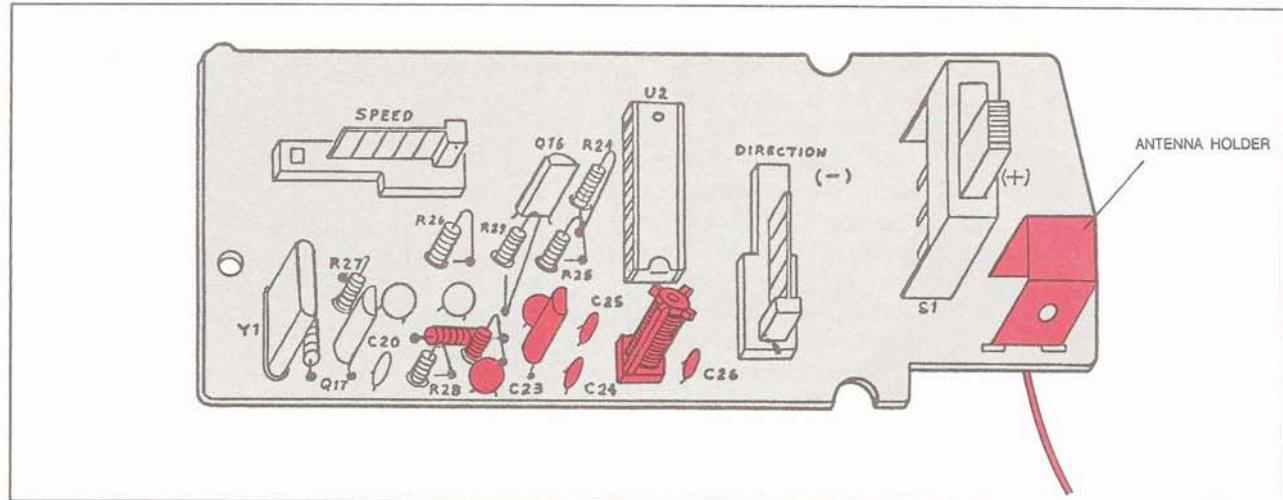

FIG. 66
Refer to Fig. 66 and assemble this stage as follows.
7. Mount the antenna holder to the COMPONENT SIDE of the PC board, as illustrated in Fig. 66. Make certain that the threaded hole is oriented in the same direction as the one depicted in the figure. Then solder the antenna holder's four tabs in place.